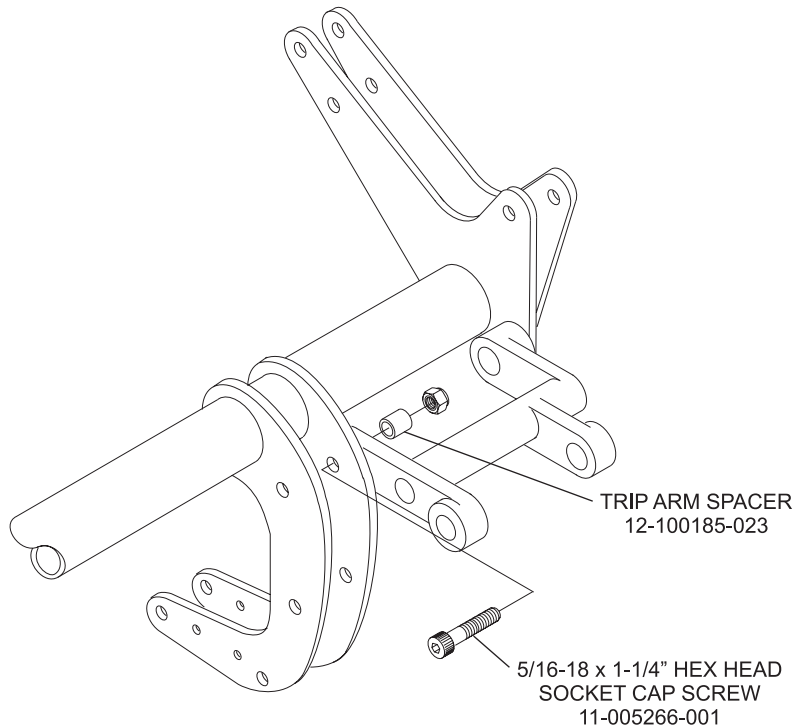

Figure 1
2. Using the 1/4" Allen wrench and 1/2" wrench, remove the 5/16-18 x 1-1/4" hex socket head cap screw (11-005266-001) which holds the trip arm spacer (12-100185-023) to the rake lift arm. Refer to *Figure 1*.